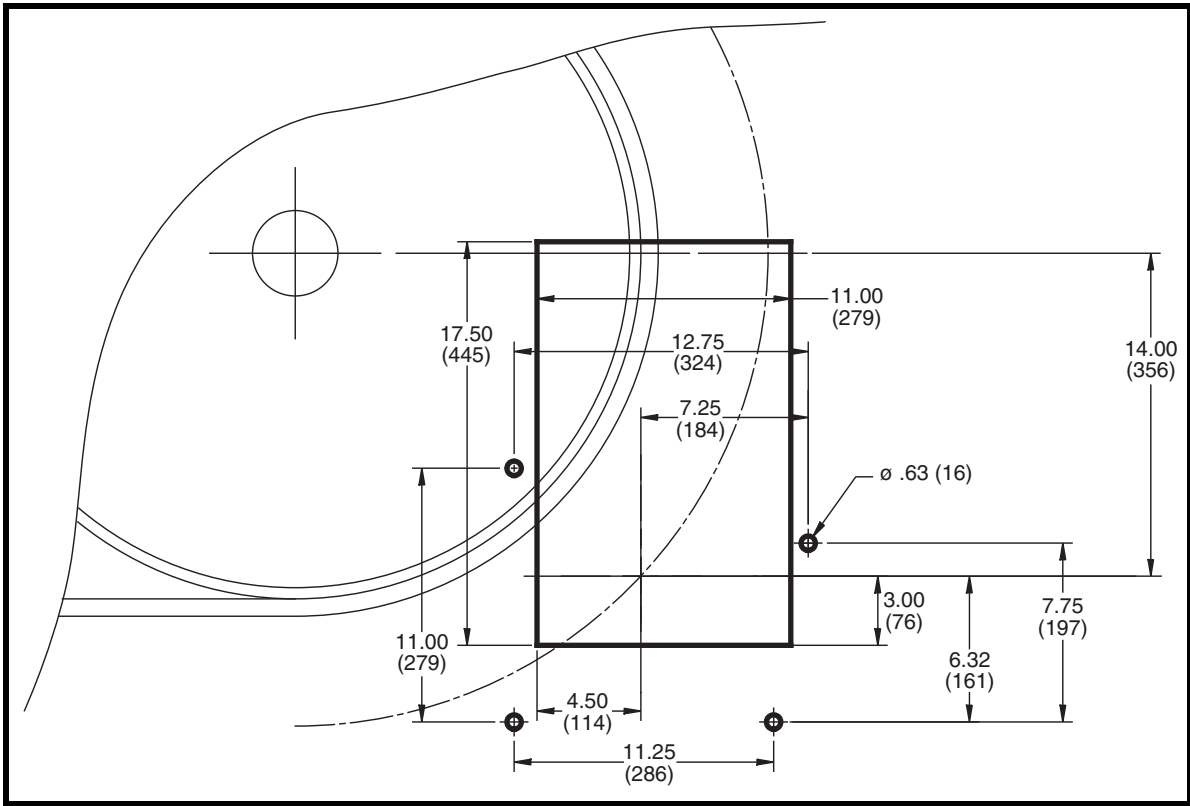
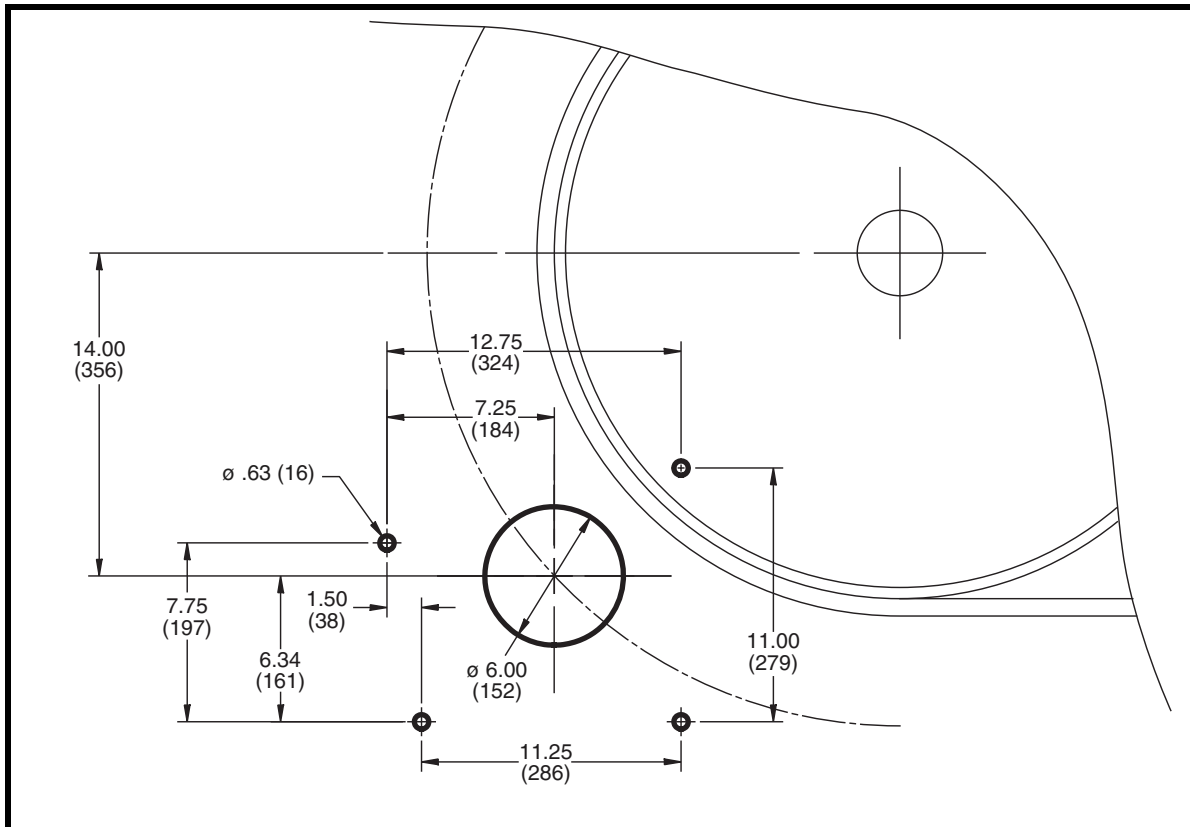

Figure 3. Operator Side Chute Cutout
Figure 4. Far Side Chute Cutout
1. Using the previously marked lines, mark the operator side chute cutout and mount hole locations as shown in Figure 3. Mark the far side chute cutout and mount hole locations as shown in Figure 4.